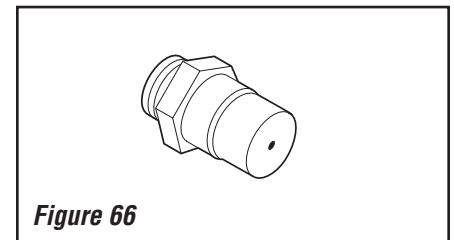

Figure 66
Step 7. Remove the burner orifice from the manifold and replace it with the one provided with the kit. See **Table 14** for orifice sizes required for use with natural gas or propane gas. **Figure 66** illustrated the orifice.